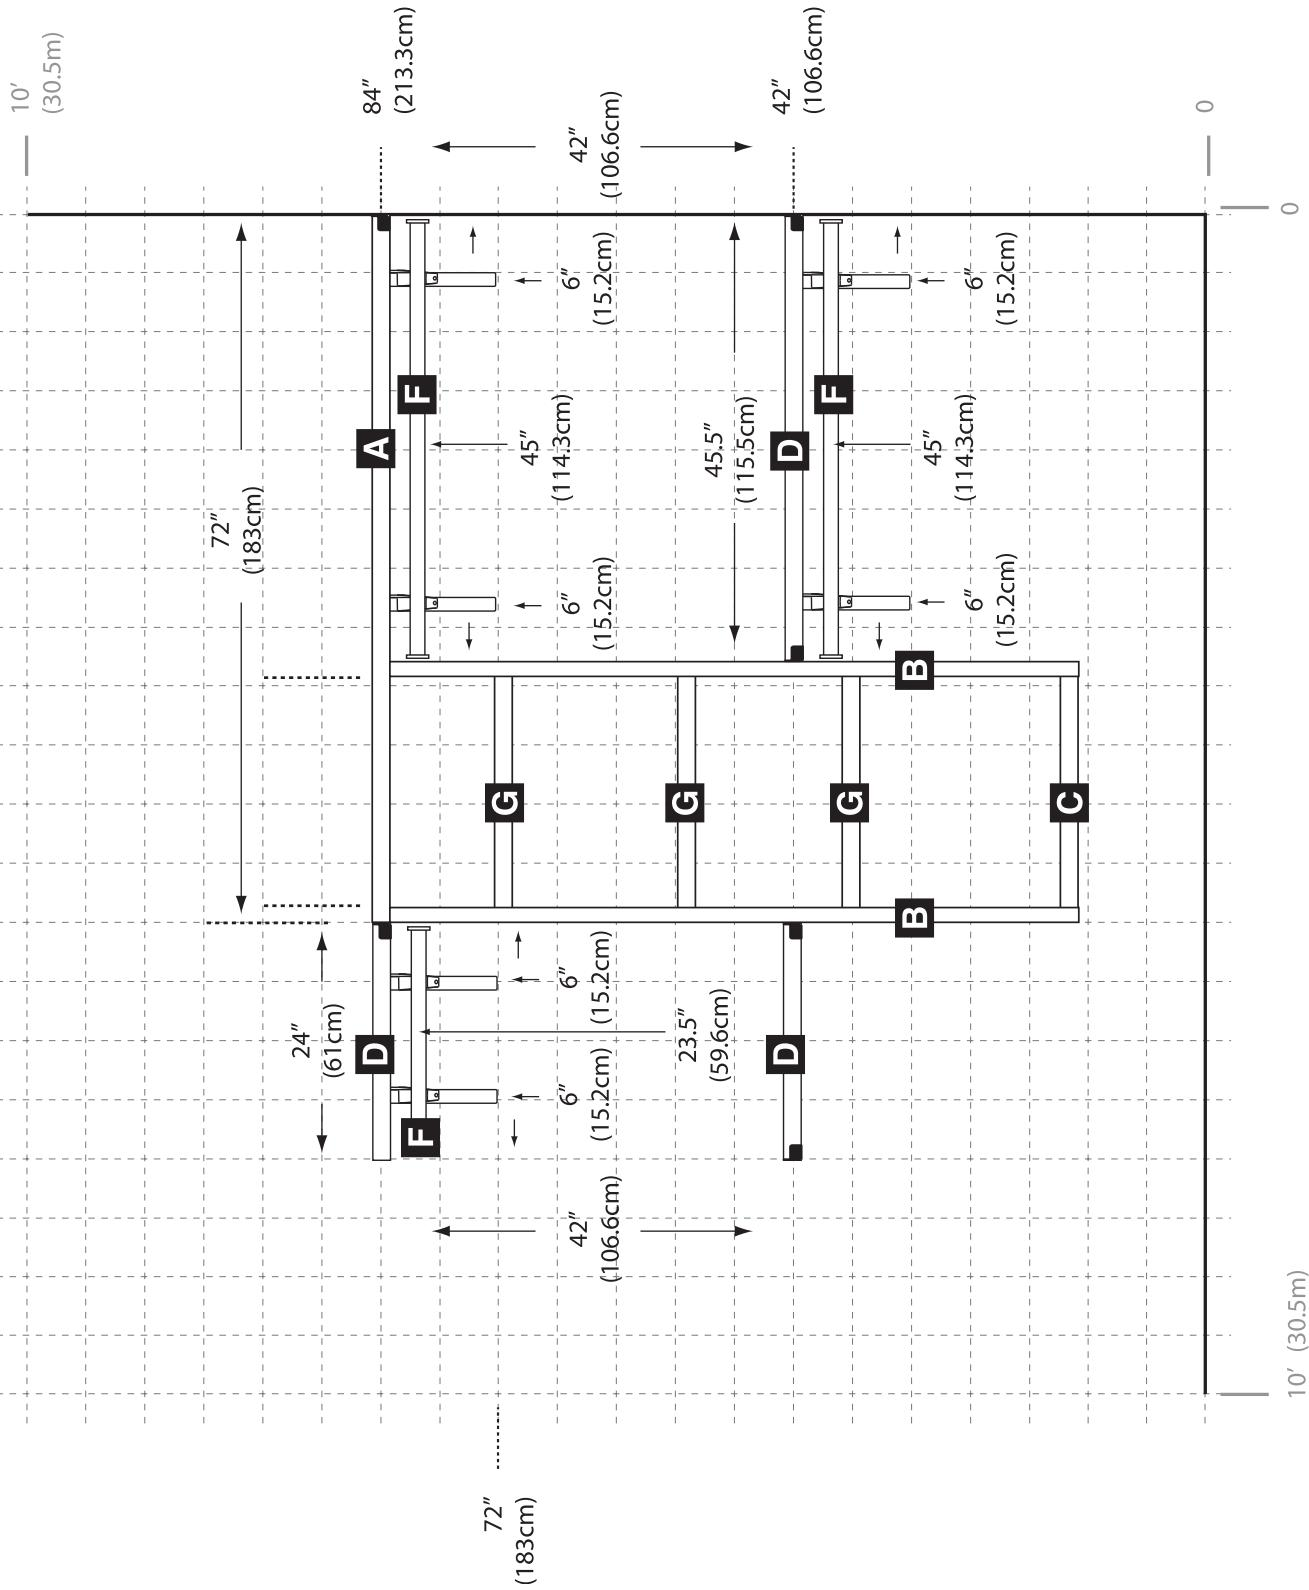

**FIG. 3.8**
9. Secure Vertical Clips to Tower using #6 3/4" screws into the side and #4 3/4" screw into the top (Fig. 3.8)